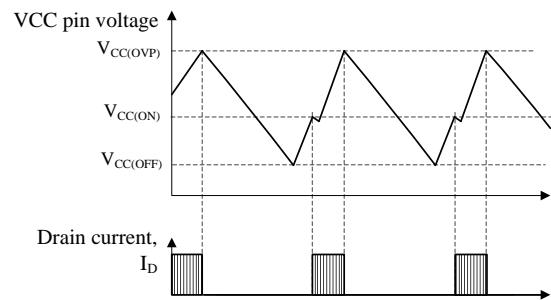

Figure 9-19 OVP operational waveforms
During OVP operation, the Bias Assist Function is disabled, the intermittent operation by UVLO is repeated (refer to Section 9.11). When the fault condition is removed, the IC returns to normal operation automatically (refer to Figure 9-19). When VCC pin voltage is provided by using auxiliary winding of transformer, the overvoltage conditions such as output voltage detection circuit open can be detected because the VCC pin voltage is proportional to output voltage. The approximate value of output voltage  $V_{OUT(OVP)}$  in OVP condition is calculated by using Equation (7).